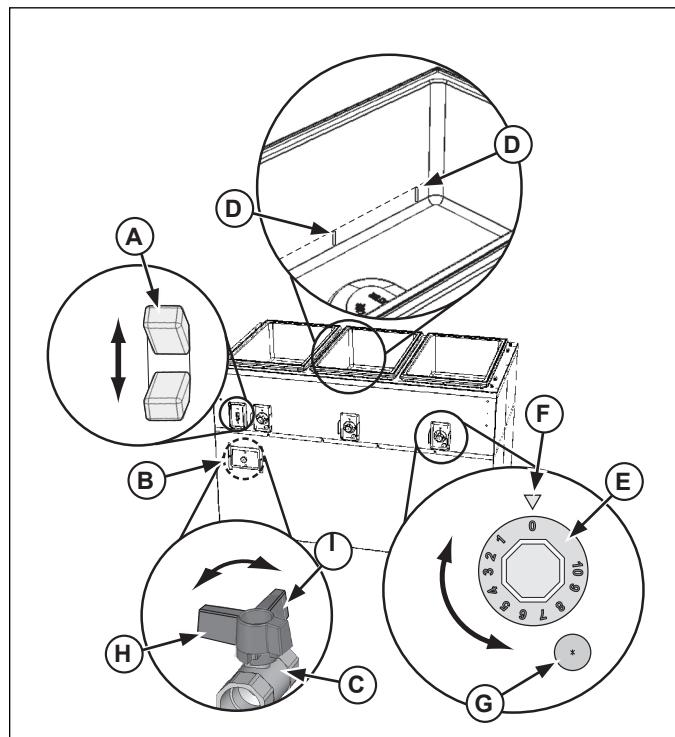

Figure 2. Deluxe Hot Station Controls
- (A) **ON/OFF** switch. Set switch to the up position for "ON". Set switch to the down position for "OFF". The switch will illuminate when in the "ON" position.
- (B) **ACCESS DOOR** for drain valve. Open or remove to access the drain valve.
- (C) **DRAIN VALVE**. Used to empty water from the well(s).
- (D) **WATER LEVEL MARKS**. Used to indicate the correct water level.
- (E) **TEMPERATURE CONTROL** dial. Used to set or adjust the temperature of the well. The larger the number the higher the temperature, the smaller the number the lower the temperature. The "0" position is off.
- (F) **DIAL REFERENCE** indicator. Used to show what position the temperature control is set at.
- (G) **LOW WATER** light. Illuminates when the well needs water. If the light illuminates during operation, clean fresh water must be added to the well.
- (H) **DRAIN VALVE CLOSED** position. When the valve is in this position the drain is closed.
- (I) **DRAIN VALVE OPEN** position. When the valve is in this position the drain valve is open.
1. Open the valve access door (B) and check that the drain valve (C) is in the closed position (H). See Figure 2.
2. Fill the well to the correct level marks (D) with clean fresh water. Correct level is about 1" (2.5 CM) of water. Do not over fill.
4. Preheat the water in the wells by covering wells with empty food containers or covers. Turn the power switch (A) to the "ON" position and set the heat control(s) (E) to the maximum setting. Preheat for 45 minutes. The water will be boiling.
7. Set the heat control(s) (E) to maintain proper hot holding temperature for food safety. Regularly check food temperature.
- (A)** **ON/OFF** switch. Set switch to the up position for "ON". Set switch to the down position for "OFF". The switch will illuminate when in the "ON" position.
- (B)** **ACCESS DOOR** for drain valve. Open or remove to access the drain valve.
- (C)** **DRAIN VALVE**. Used to empty water from the well(s).
- (D)** **DRAIN VALVE CLOSED** position. When the valve is in this position the drain is closed.
- (E)** **DRAIN VALVE OPEN** position. When the valve is in this position the drain valve is open.
1. Open the valve access door (A) and check that the drain valve is in the closed position (D). See Figure 2.
3. Turn the power switch (A) to the "ON" position. This unit does not have an adjustable temperature setting. Allow the unit to run for approximately 30 minutes. For the best performance when using ice with this unit, allow unit to run for approximately 2 hours before adding ice. This will help the ice remain solid.